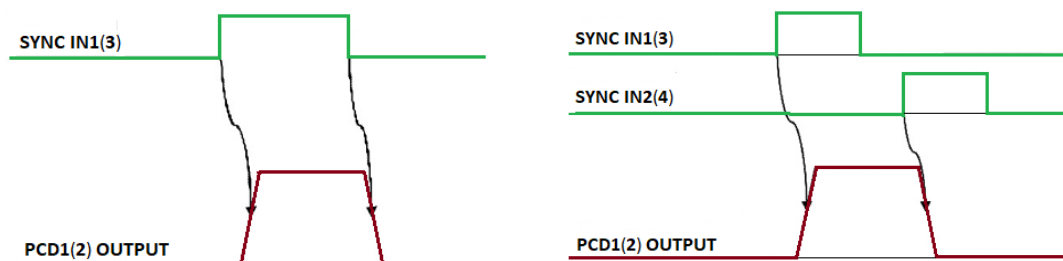
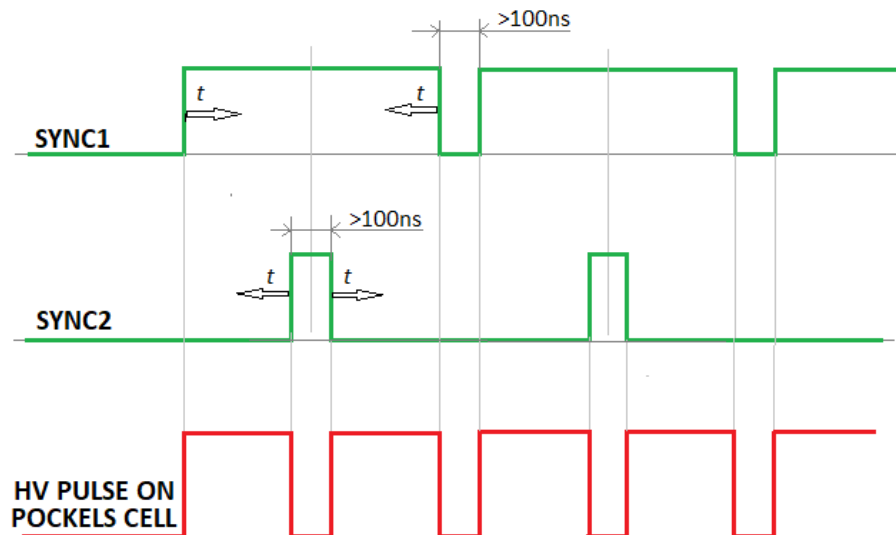

Figure 6. Control timing for 1-input (left) and 2-input (right) controlled PCD1, PCD2 drivers
Figure 8. Control 2DP drivers with frequency doubling
Everyone of PCD1, PCD2 driver can be controlled by one or two SYNC IN signals (see **Figure 6**).
1. Operation with frequency doubling. Output pulses to Pockels cell appear double frequency as any of trigger input. **Figure 8** presents the principle. SYNC1 and SYNC2 are triggering inputs. Corresponding outputs OUT1 and OUT2 of the driver repeats the time scale of SYNC inputs and presents amplitude in kV. Resulting HV pulse on Pockels cell appears as difference of these two outputs. Pulse duration to Pockels cell is tuned by shifting SYNC input's edges toward directions marked by arrows t simultaneously. The pulse duration can be tuned down to 0 unlike as in regular Pockels cell drivers. The width of pulse SYNC1 must to be about 0.5 period or longer. **Figures 8...10** timing diagrams shows control principle using 1-input triggering. The same is valid using 2-inputs control, note **Figure 6** right section.